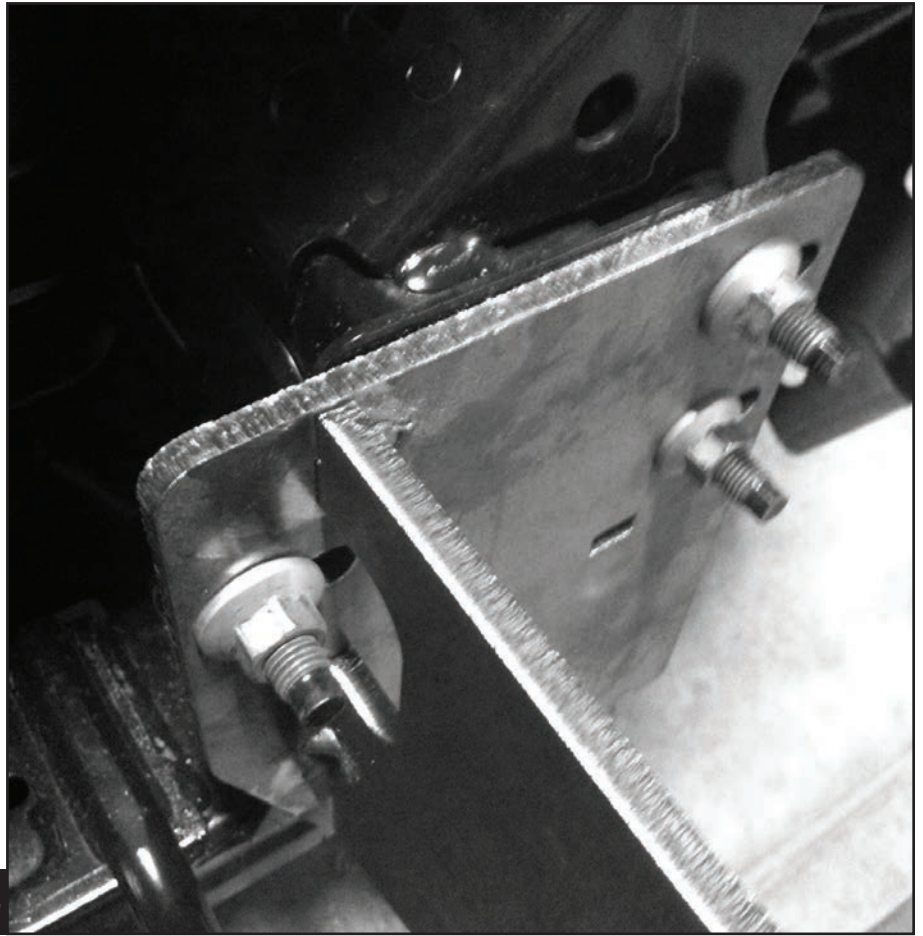

Fig 14
16. Attach Ironcross bumper brackets to frame using factory hardware from crash bar (**Fig 14**).